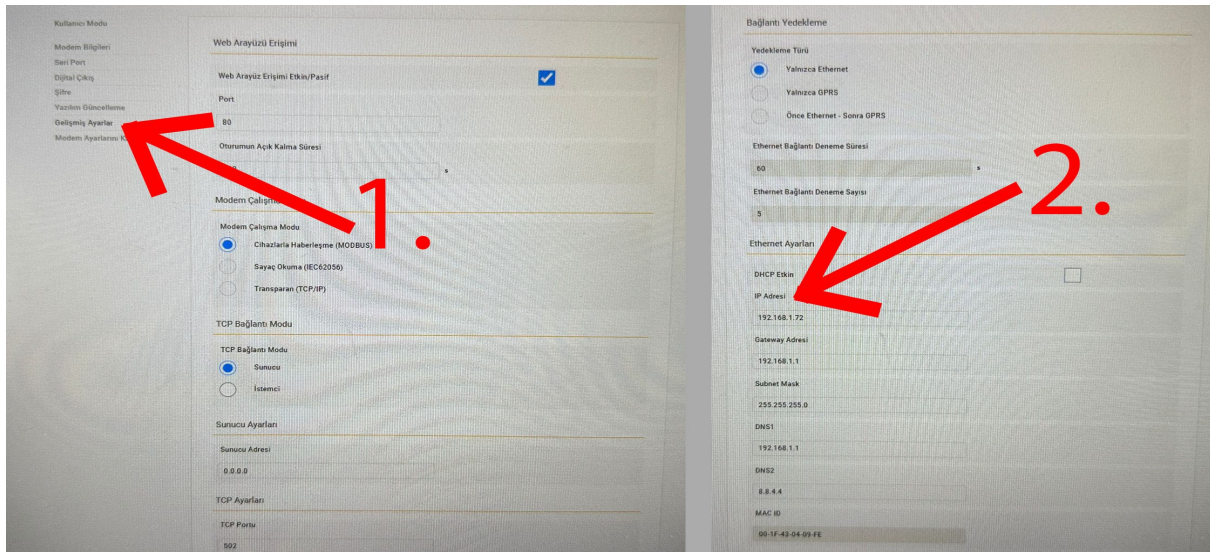

Figure 18. Learning local IP address of your TCP/IP converter
- 3- Thirdly, when you enter your password you can access the web interface of device. There is a menu part top left sight of the page and on this menu part you should click the advanced settings menu (advanced settings menu on the Figure 18, 1. step). After that, you should scroll down and reach the "IP Adress" section (IP Adress section on the Figure 18, 2. Step). Finally, you can see your IP Address. (After reached your IP ADDRESS you can unplug USB.)